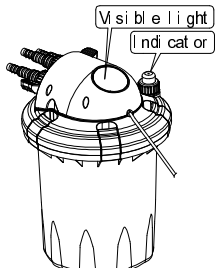

Figure 3
- The correct functioning of the UV bulb is indicated by a light visible through the top of the outer lid. (See figure 3)